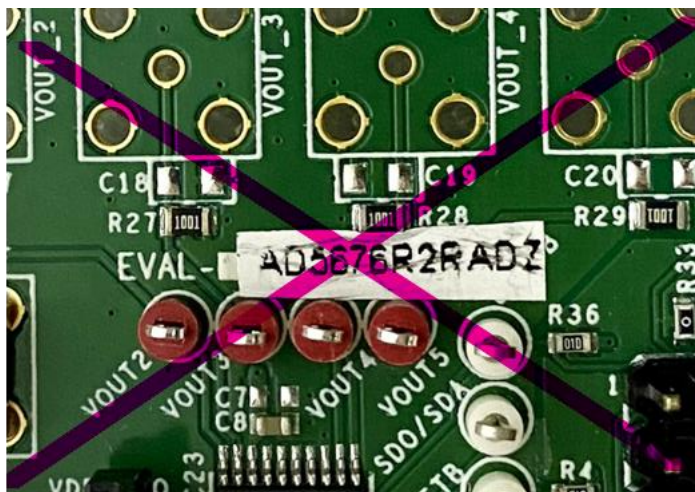

Figure 22 Sticker Mistakes to Avoid
- a. Cut the stickers straightly so that they fit the empty box of the board without covering any labels. Avoid the mistakes shown in Figure 22, where the sticker is dirty and not properly placed, cuts are not straight, the wrong model number is written on the sticker, and a Test Point Label is covered.